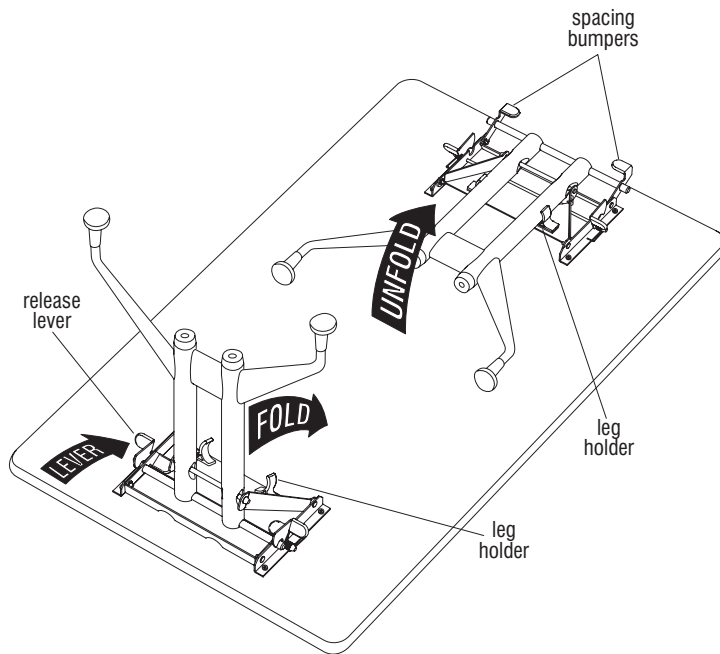

Figure 3
1. **To unfold:** place table top upside down onto a soft protective surface (Figure 3).
2. Unsnap table leg from leg holders. Lift leg to a 90° angle making sure the base locks securely into place (Figure 3).
4. **To fold:** place table top upside down onto a soft protective surface (Figure 3).
5. While depressing either one or both of the green release levers on either side of the leg base, push the leg down toward the center of the table. Snap the leg into the plastic leg holders (Figure 3).
8. While in the folded position the spacing bumpers provide protection for the top surface of an adjacent table when tables are leaned against each other (Figure 3).